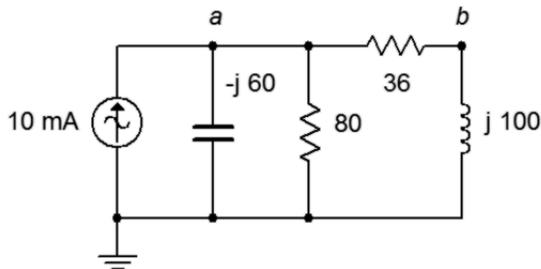

Figure 5.24
50. For the circuit of Figure 5.24, determine the Thévenin and Norton equivalents that drive the combo of  $36 \text{ }\Omega + j100 \text{ }\Omega$ . Does this combo achieve maximum load power? If not, what combo will achieve maximum power and what is the resulting power?
76. Using Norton's Theorem with the circuit of Figure 5.24, determine a new value of inductive reactance such that the inductor current is 1 mA in magnitude.